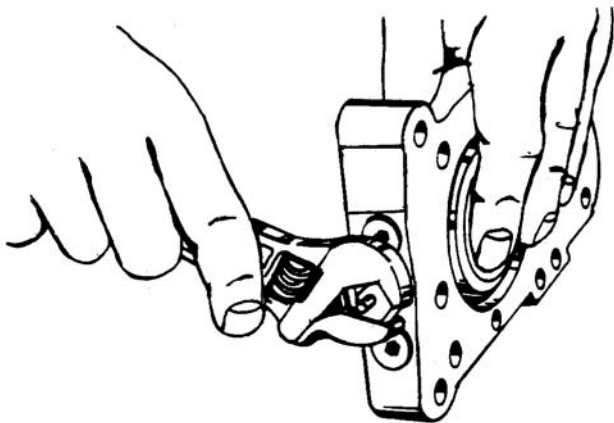

Figure 6-34. Removing Plug
- a. Remove plug and bypass spool. See Figure 6-34.